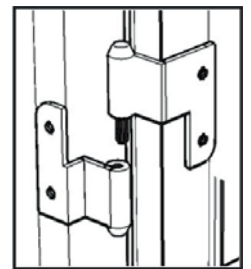

Figure 7
Attach Doors (Q) and (R) by sliding the door lift hinges into the side panels lift hinges. (See Figure 7)